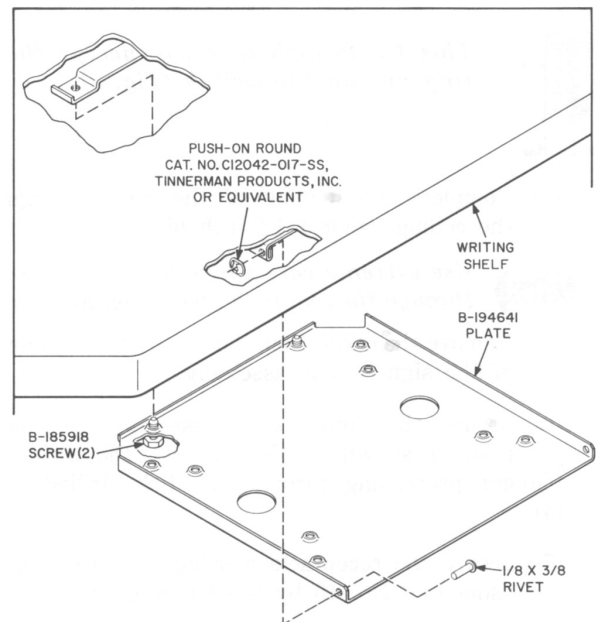

Fig. 3—KS-19340, List 55 Subscriber Set Mounting Kit
5.02 The KS-19340, List 55 kit may be ordered separately if necessary. Install the kit in accordance with Fig. 3. All hardware is furnished as part of the kit.